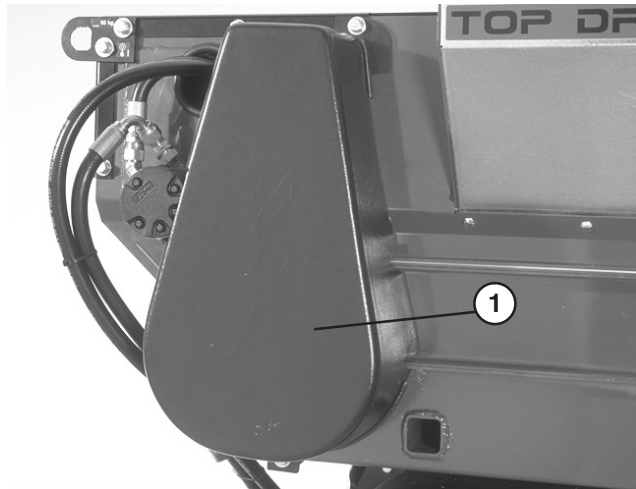

Figure 23
1. Remove chain cover (Fig. 23).